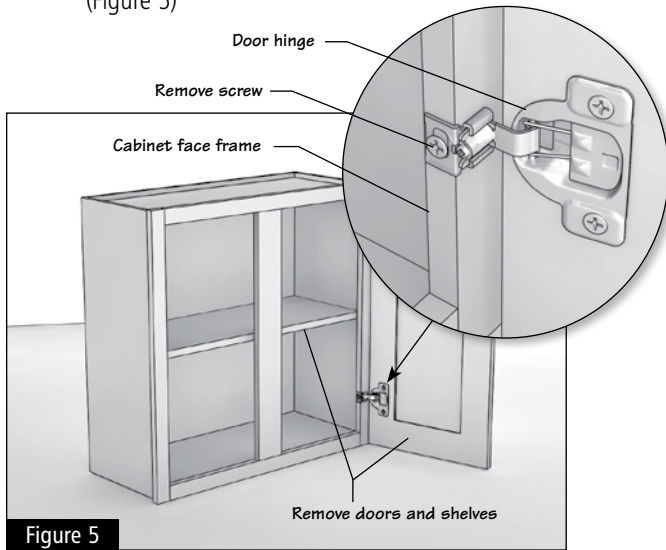

Figure 5
- 2.1** Remove all shelves and doors. You might want to mark (or carefully stack them in position) for reinstalling later. This will make the cabinets lighter and easier to handle. (Figure 5)